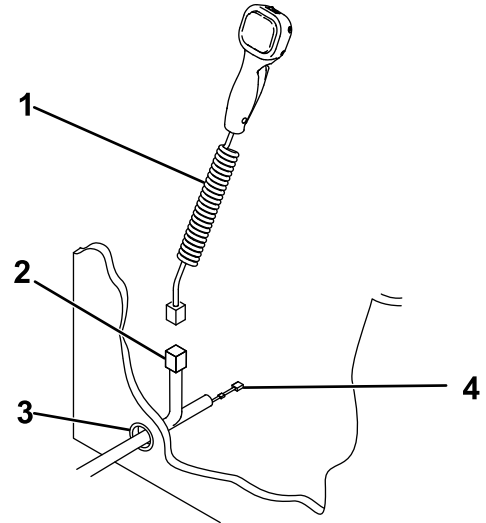

Figure 17
4. Pull the plow controller connector and black/red wire with an in-line fuse into the vehicle cab through the hole in the firewall (Figure 17).